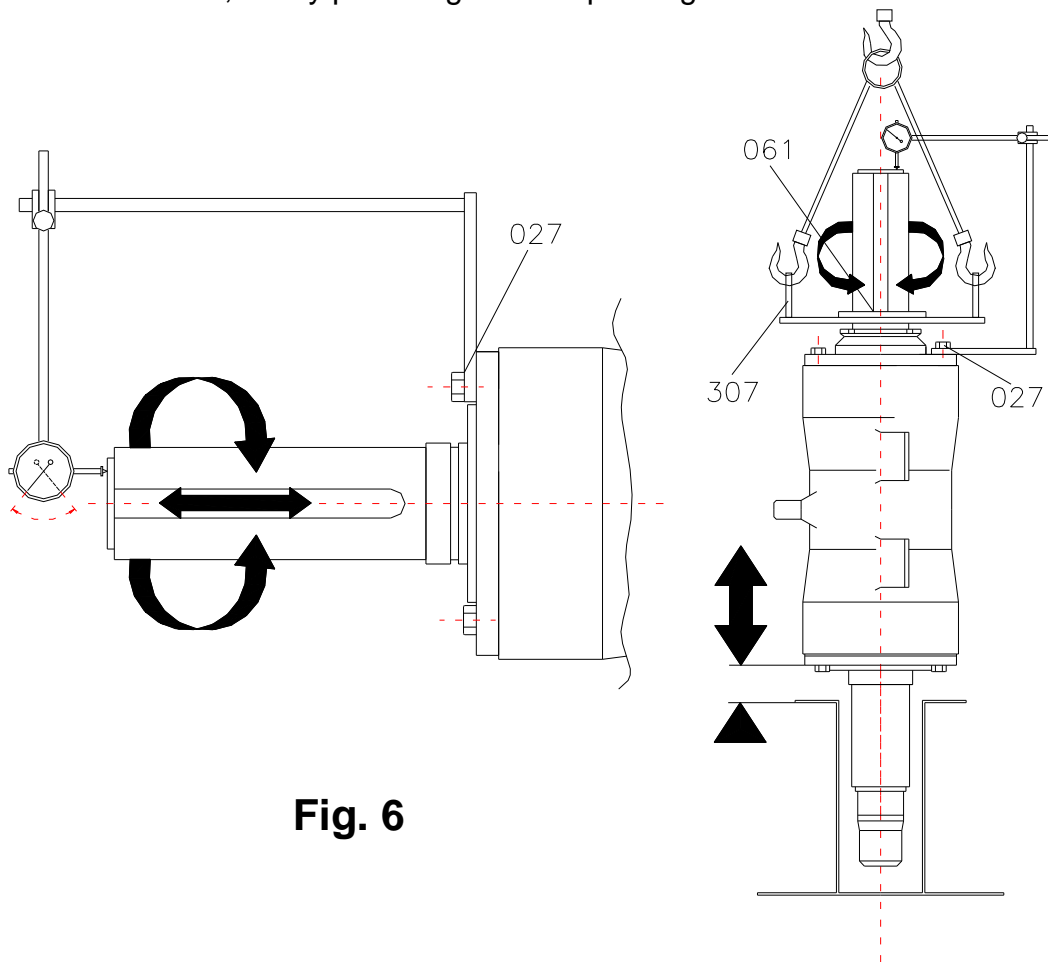

Fig. 6
- 3- Adjust the lifting plate (307) (eyes up) to the upper shaft end. Tighten the locking nut (061) in the shaft temporarily. Attach the cable ends, suspended by a crane, to the eyes in the lifting plate (See Fig.6).